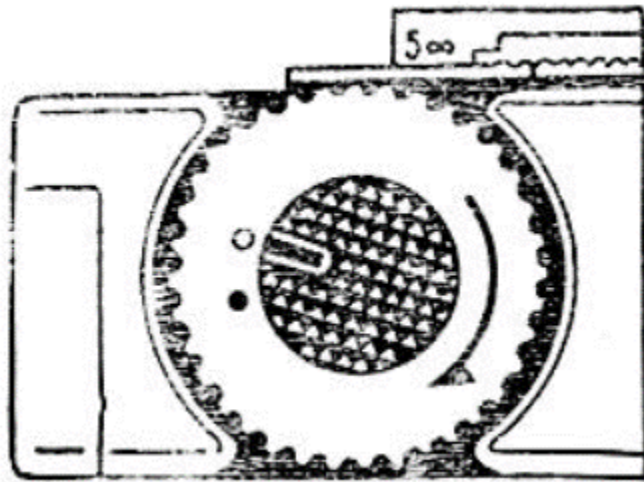

Figure 5
5.1.1. Take the camera in your hands, as shown on figure 5. Slide the lock (14) in the direction shown on the arrow, and holding it in this position, remove the camera cover (13).